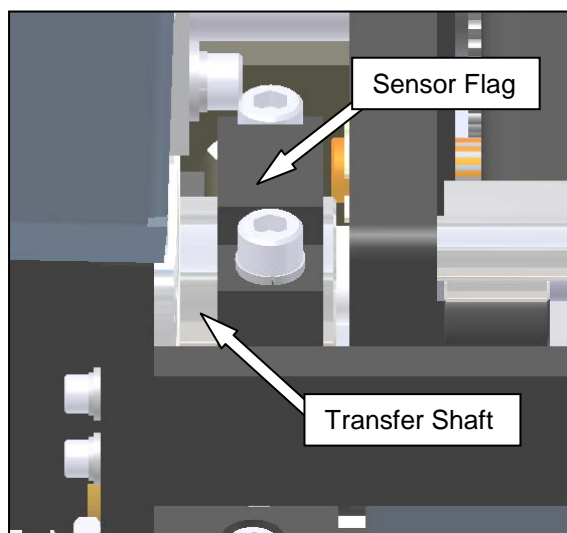

Figure 3-236. Transfer Shaft and Sensor Flag
3. Open the cradle cover. Mark the sensor flag position on the transfer shaft (Figure 3-236). Make a reference point on the flag and corresponding line on the shaft, being sure to identify both rotation angle and distance from the bearing. This reference point will be needed for reassembly.